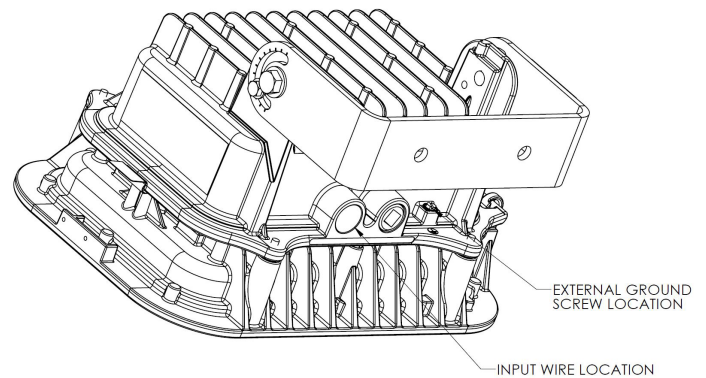

Figure 6
1. Unscrew the ground fastener shown in Figure 6.